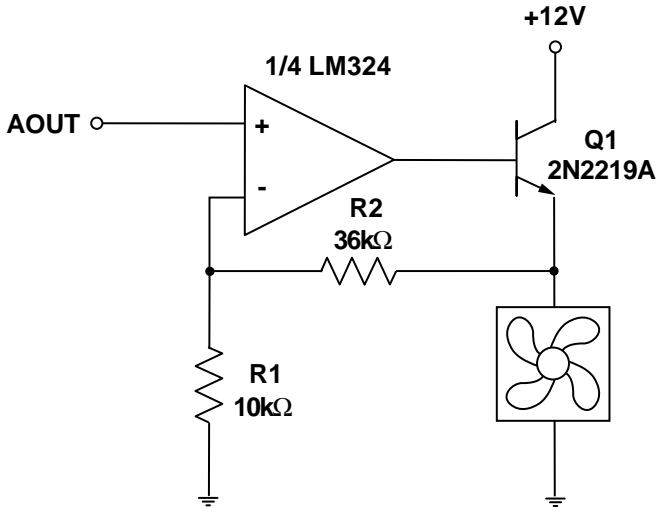

Figure 10a. Fan Drive Circuit with Op-Amp and Emitter-Follower
Suitable fan drive circuits are given in figures 10a to 10f. When using any of these circuits, the following points should be noted:
1. All of these circuits will provide an output range from zero to almost +12V, apart from figure 10a which loses the base-emitter voltage drop of Q1 due to the emitter-follower configuration.